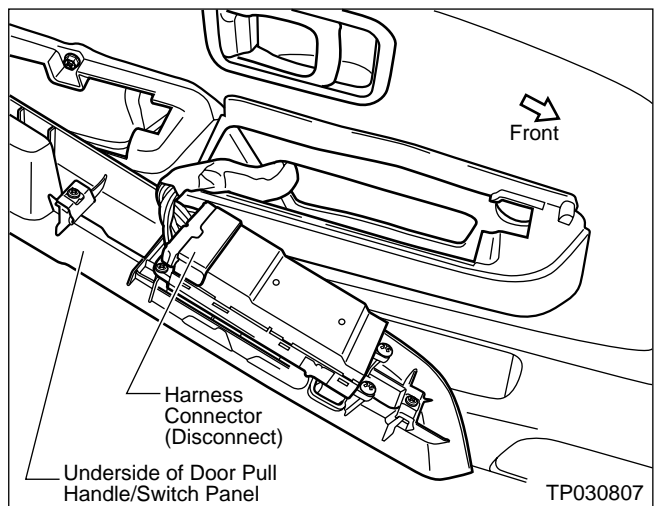

Figure 28
6. Disconnect the Vehicle Harness from the Door Pull Handle/Switch Panel (see Figure 28).